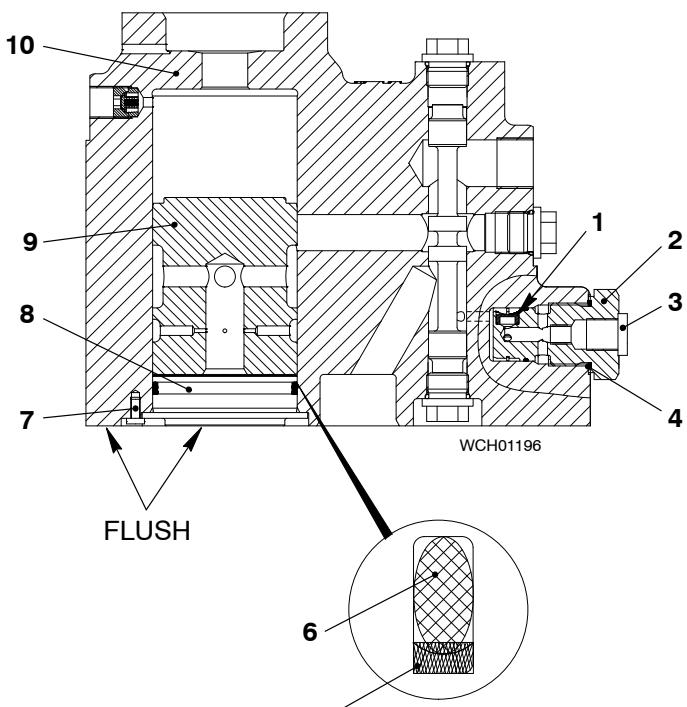

Fig. 2
- 1) Remove the pan head screw (7, Fig. 2).
- 2) Remove the plug (8).
- 3) Remove and discard the O-ring (6) and the back-up ring (5).
- 4) Make sure that the piston (9) moves freely.
- 5) Remove the filter holder (2) and the screw plug (3) from the valve control block (10).
- 6) Make sure that the oil filter (1) is clean and has no damage. If necessary, replace the oil filter.
- 7) Make sure that the seal (4) has no damage. If necessary, replace the seal.